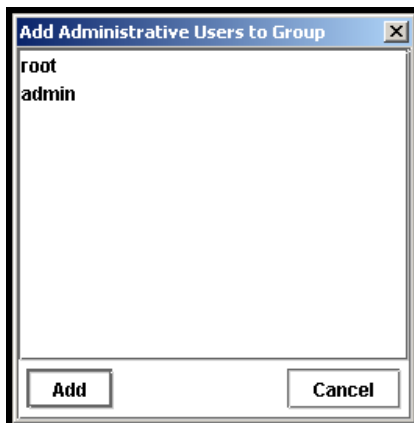

Figure 98. Adding an Administrative User to a Group
1. Click Add in the Users section. The Add Users window opens with a list of administrative users, shown in Figure 98.